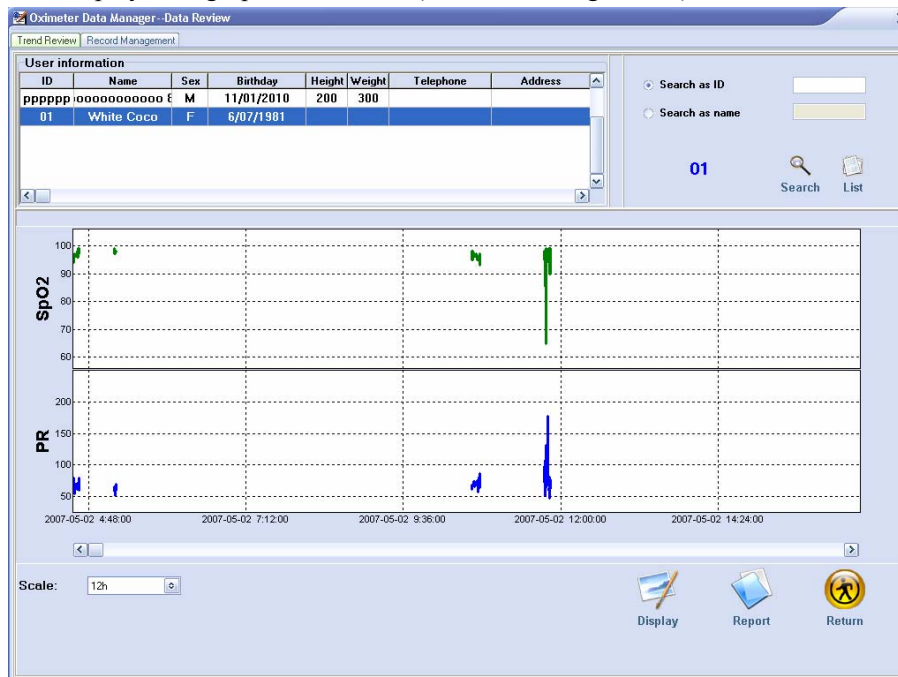

Figure 3-9 Trend Review
2. Select a member in archive list, and then click on “Display” button. All the SpO2 and pulse rate graphic trends of this patient will be displayed in graphic trend area (as shown in Figure 3-9).